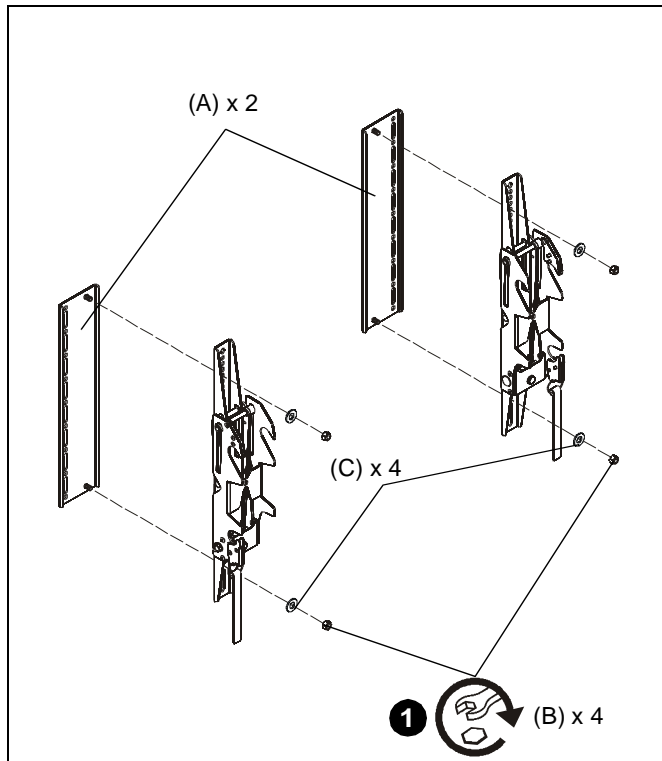

Figure 1
1. Use four 5/16-18" hex nuts (B) and four flat washers (C) to connect LSMVU Fusion uprights to extender brackets (A). (See Figure 1)